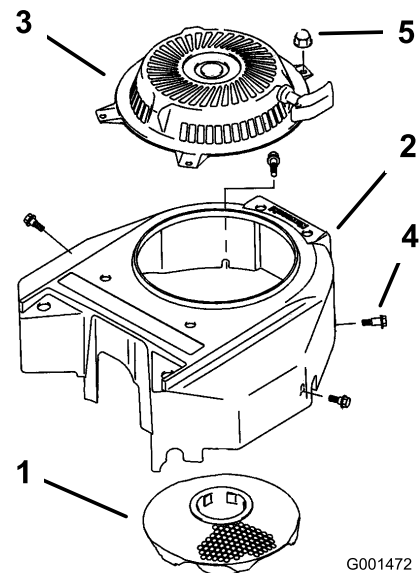

Figure 47
- Remove the air-intake screen, the recoil starter, and the fan housing (Figure 47).
- Install the air-intake screen, the recoil starter, and the fan housing (Figure 47).